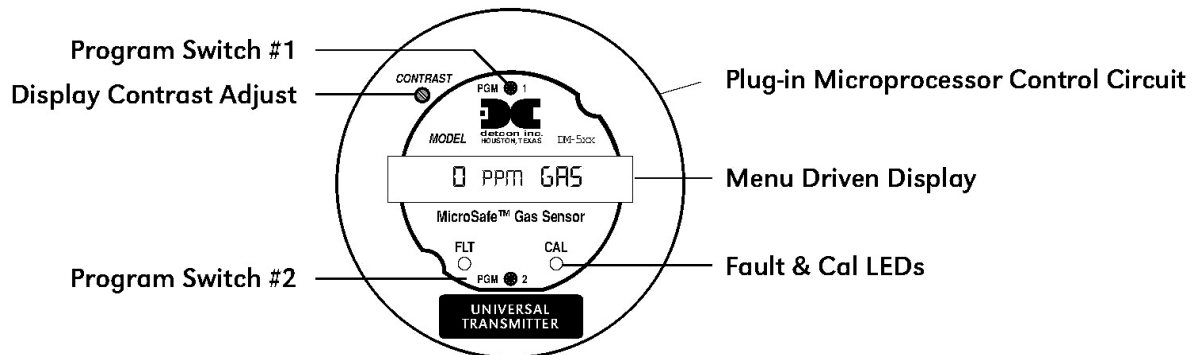

Figure 11 Programming Switch locations
A magnetic programming tool (see Figure 10) is used to operate the switches. Switch action is defined as momentary contact, 3-second hold, and 30-second hold. In momentary contact use, the programming magnet is waved over a switch location. In 3 second hold, the programming magnet is held in place over a switch location for 3 or more seconds. In 30 second hold, the programming magnet is held in place over a switch location for 30 or more seconds. Three and thirty second hold is used to enter or exit calibration and program menus while momentary contact is used to make adjustments. The location of “PGM 1” and “PGM 2” are shown in Figure 11.
- a. Enter the calibration menu by holding the programming magnet stationary over “PGM 1” (see Figure 11) for 3 seconds until the display reads “**1-ZERO 2-SPAN**” then withdraw the magnet. Note that the “CAL” LED is on.
To adjust the display contrast, remove the enclosure cover and use a jeweler's screwdriver to turn the contrast adjust screw located beneath the metallic face plate. The adjustment location is marked "CONTRAST". See Figure 11 for location.